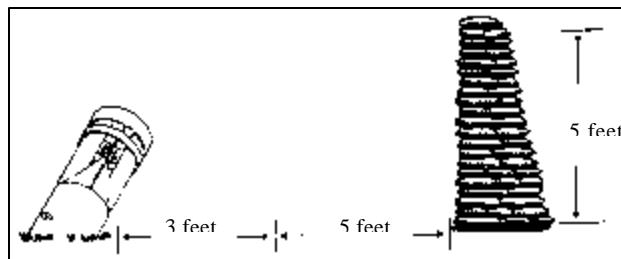

Figure 78. Placement distance for barricade.
- (1) The barricade should be built no closer to the UXO than the height for the barricade plus 3 feet. Further guidance on the height for barricades is provided later in this section. For example, the barricade shown in Figure 78 is 5 feet tall. By adding an additional 3 feet, the barricade is built no closer than 8 feet to the UXO.